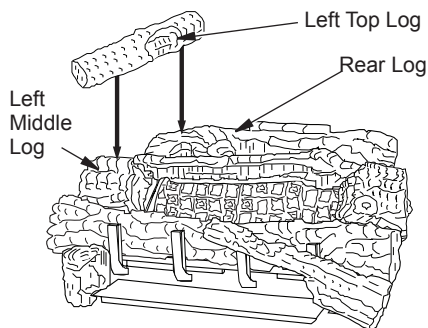

Figure 45 - Installing Left Top Log
10. Place the left top log (D-046) onto the rear log and the left middle log. Make sure to place the projection on the bottom of the left top log into the recessed areas on the rear and left middle logs (see Figure 45).